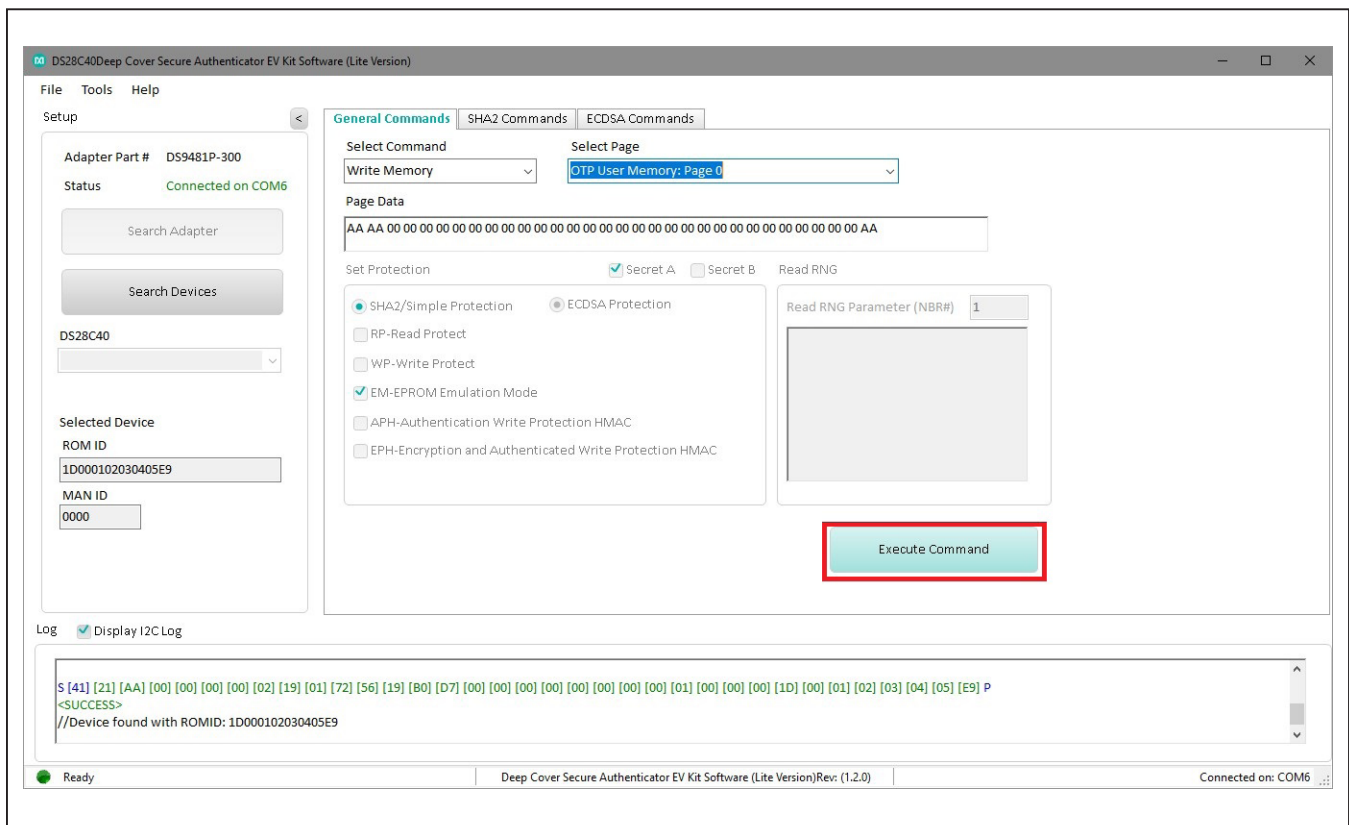

Figure 16. Execute Command
- 5) Click the **Execute Command** button (Figure 16). The I2C communication is displayed on the **Log** window and aids to understand how the command is executed.
- 8) Click the **Execute Command** button (Figure 16).